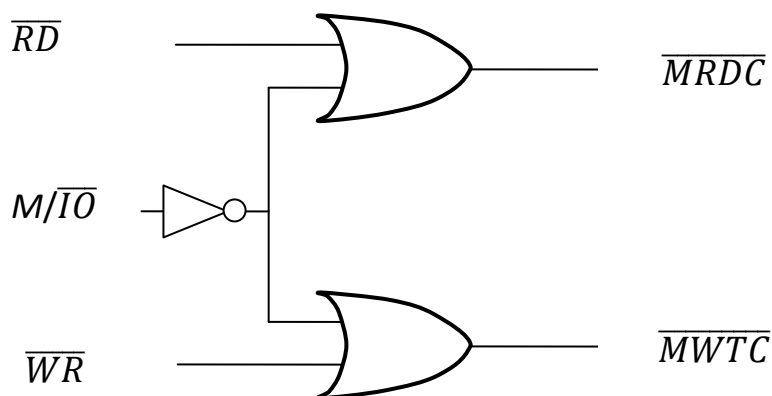

Figure 10-2
- $\overline{MWT\bar{C}}$ and $\overline{MRD\bar{C}}$ are produced as shown in figure 10-2.